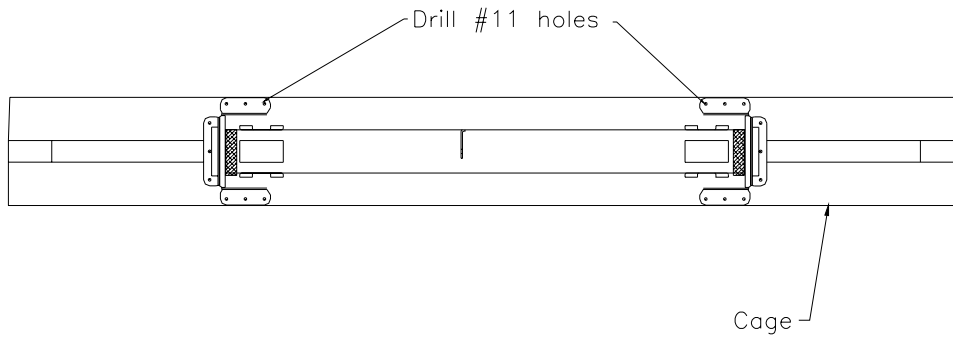

Figure 20.3.11
14) Drill #11 holes and cleco the bearing bases to the floor. Figure 20.3.11.